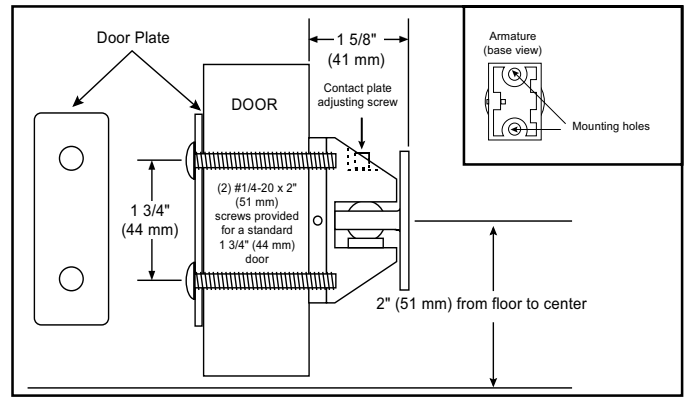

Figure 5. Thru-Bolt Mounting (Cat. Series 1505 shown)
- Using a 5/32" Allen wrench, turn the contact plate adjusting screw (Figures 5 and 6) counterclockwise to loosen the contact plate.
- Thru-bolt mounting (Figure 5).** Center punch the two holes (at the points marked in step 3) and drill 5/16"
Secure the armature assembly, with the contact plate adjust screw facing down, to the door as shown in Figure 5 using (2) #1/4-20 x 2" screws (supplied)